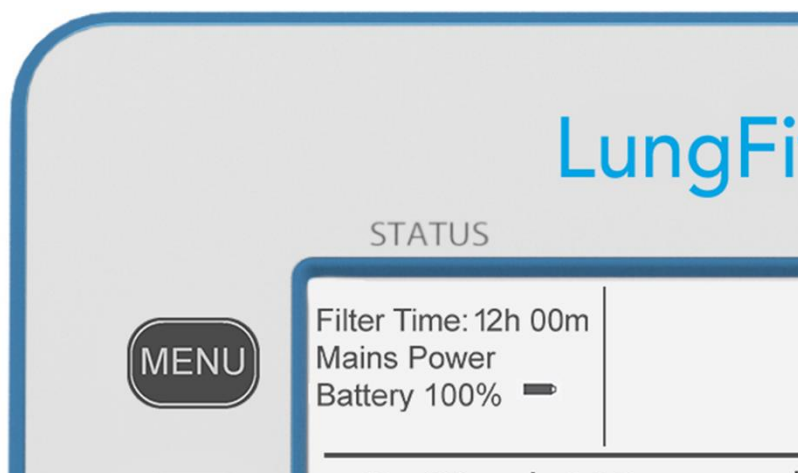

Figure 30: Filter Time remaining (12h 00 m) on STATUS section of User Interface
- Confirm that new filter is recognized by LungFit PH system by observing updated value for Filter Time in **STATUS** Section (*see Figure 30*).